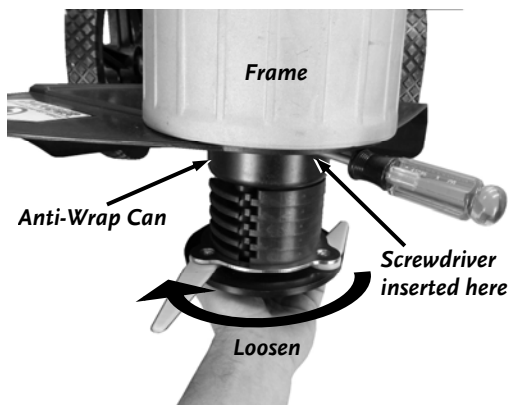

Figure 6
1. Insert the Screwdriver into the hole in the Anti-Wrap Can and rotate the Mow-Ball® until the tool slides into a second hole that is in the shaft, locking it into place (**Figure 6**).